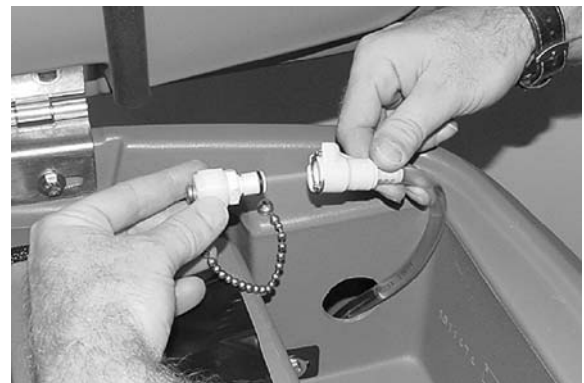

FIG. 14
- When the supply hose is not in use, make sure to connect it to the storage plug (Figure 14). This will prevent the FaST system from drying out and clogging up the supply hose.